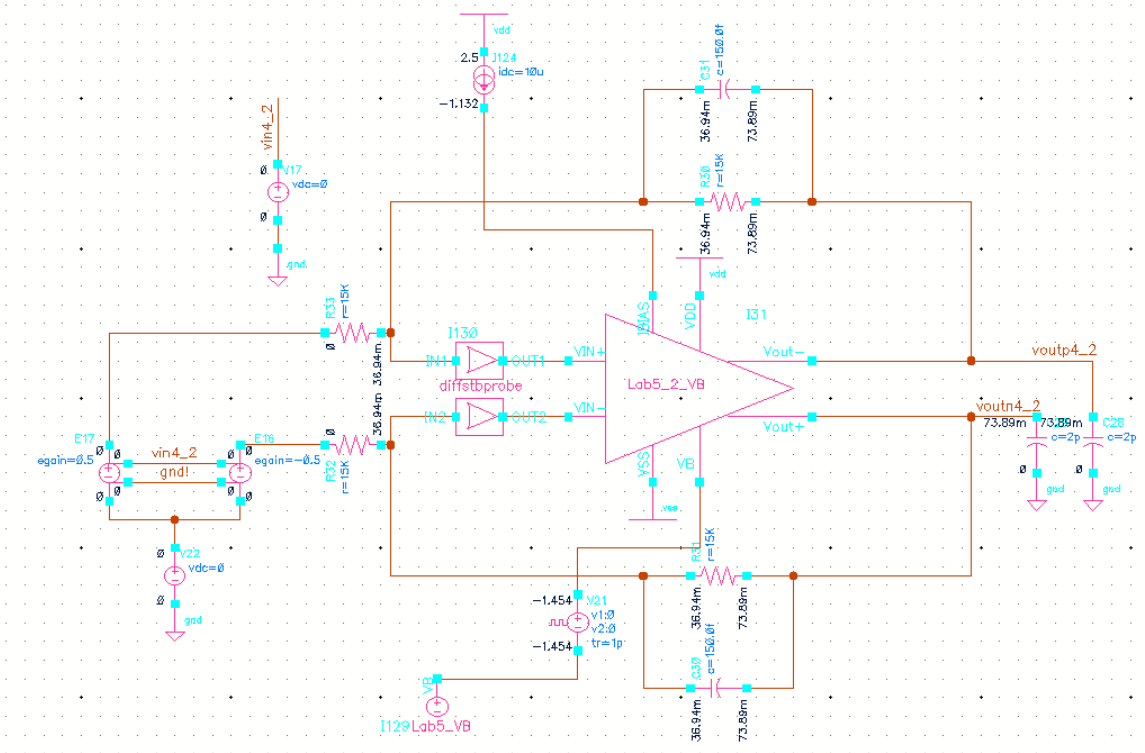

Fig 2
- a. Connect the biasing voltage to the “CMFB” node of the amplifier and build a test-bench as Fig 2. Verify the student’s design and find DC gain, GBW and phase margin of that circuits. For “stb” simulation, refer to Appendix A.